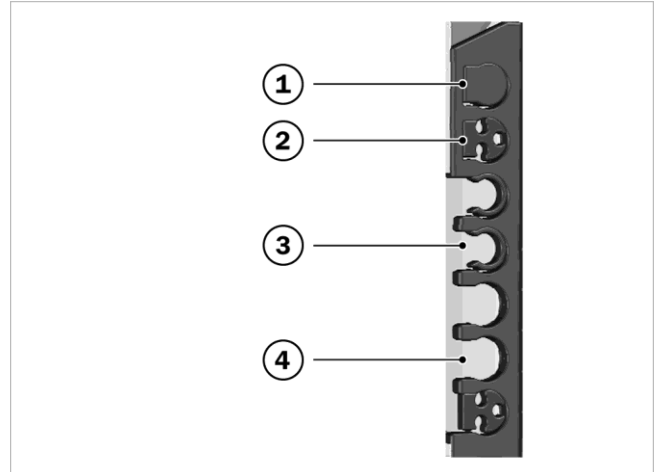

Fig. 21: Inserts for the pipe lead-throughs
4. Using a 3x reducer (see → fig. 21, 2), guide the other end through the pipe lead-through on either the left or right-hand side of the frame. Ensure that there is a sufficient incline.
2. Guide the gas line through one of the top pipe lead-throughs on the left or right-hand side of the frame using a 3x reducer (see → fig. 21, 2).